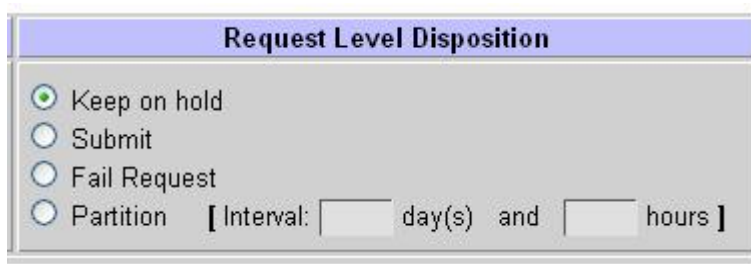

Figure 15.6-8. Request Level Disposition
- 19 Changing a request disposition (Figure 15.6-8) will alter the queuing of its distribution or how it is handled. There are several options to change the level disposition:
- **Partition** – This option will start the process of partitioning a request that exceeds maximum request size. The process will perform the distribution of granules in Intervals (days and hours) over a period of time (Figure 15.6-8 Request Level Disposition).